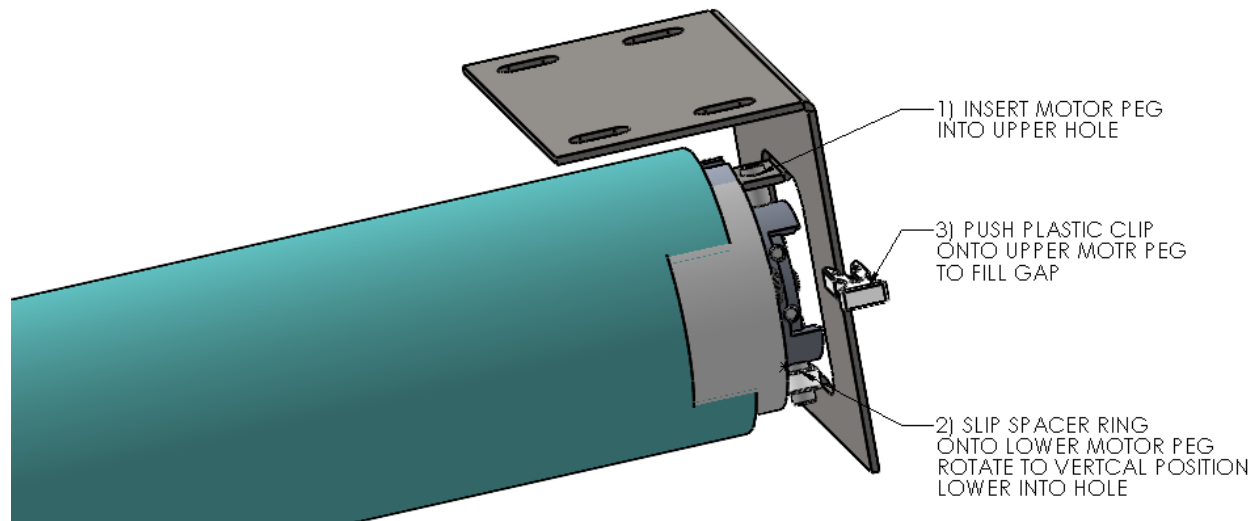

Figure 3 Motor End Assembly Process
5. On the motor end of the Roll Assembly, insert the Motor's Peg into the Top (or Back) hole of the Motor Mounting Bracket. (Figure 3 Motor End Assembly Process)